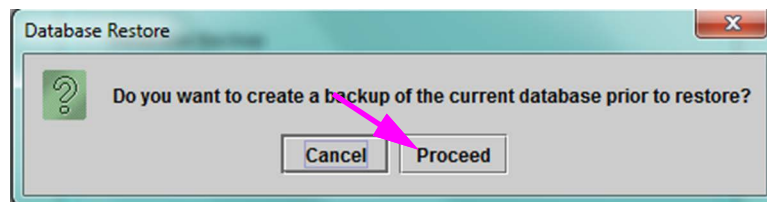
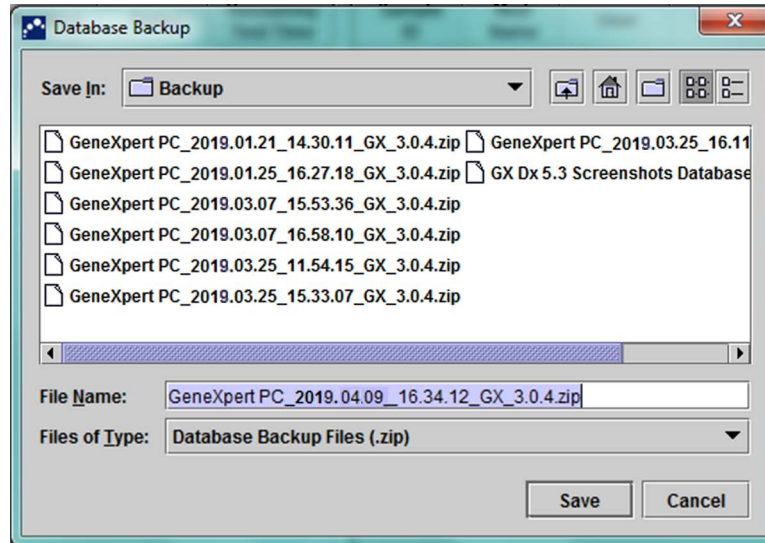

Figure 5-72. Database Restore Dialog Box
Figure 5-73. Database Backup Dialog Box
2. Click **Proceed**. A dialog box appears asking if you want to back up the current database (recommended) before restoring. See Figure 5-72.
- Click **Proceed** in the Database Restore confirmation dialog box to continue with the database backup (see Figure 5-72). The Database Backup dialog will be displayed. See Figure 5-73.
- Locate and select the folder in which you want to store the backup file, type a name for the backup file (or use the default filename) and click **Save**. See Figure 5-73.